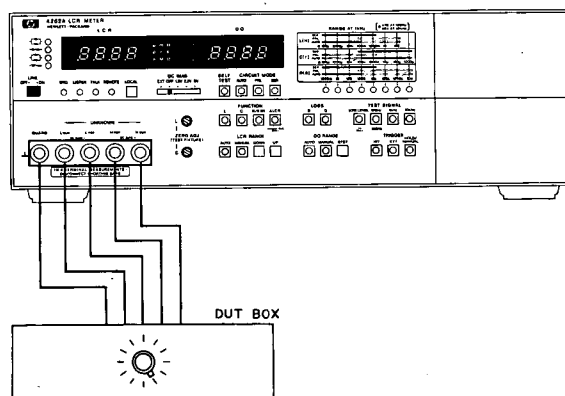

Figure 4-5 Inductance Accuracy Test Setup.
- 1. Connect Test Leads (HP P/N 16361-61605) between 4262A UNKNOWN terminals and HP 16361A DUT Box (see Figure 4-5). When TEST SIGNAL frequency is 10kHz, use HP 16362A in place of HP 16361A.